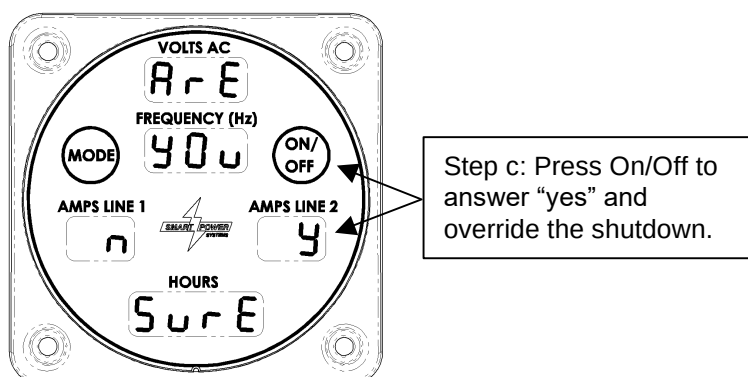

Figure 24 – Low Oil Fault Override Confirmation
- c. If your answer was "yes" in the previous step, the confirmation screen shown in Figure 24 will be displayed. Again note the *y* and *n* labels below the Mode and On/Off switches. Press the On/Off switch to answer "yes" and override the shutdown. Press Mode to answer "no" and proceed to the oil temperature display.